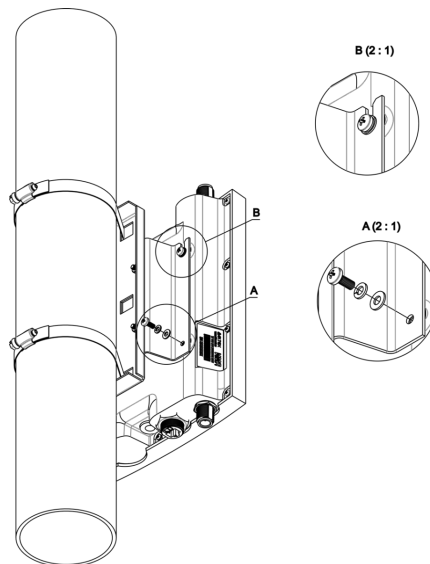

Figure 10 – Mounting the device on a mast/pole
3.1) Install the device on the top untwisted screws of a bracket attached to a mast/pole, see Figure 10.
3.2) Install screws to the bottom bolthole, see Figure 10.